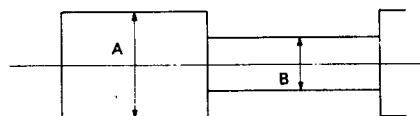

Fig. 15 Envelope Output and Output Level Difference
1. Make recordings on E-120 and E-180 tapes, and make sure the playback output envelope meets the specification as shown in Fig. 15.
2. Play back a self recorded tape (recording made on this unit), (with a E-120) the video envelope should meet the specification as shown in Fig. 15.